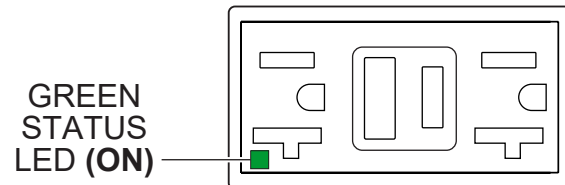

Figure 57. GFCI Receptacle (ON)
3. Verify that the **status LED** on the **GFCI receptacle** (Figure 57) is **ON (GREEN)**.